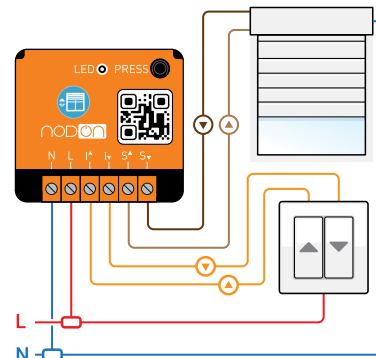

figure 1
- Wire the module according to the diagram figure 1.
- **Level 1:** the signal is repeated (1 jump, see figure 1)
- **Level 2:** the signal is repeated (2 jumps, see figure 1)